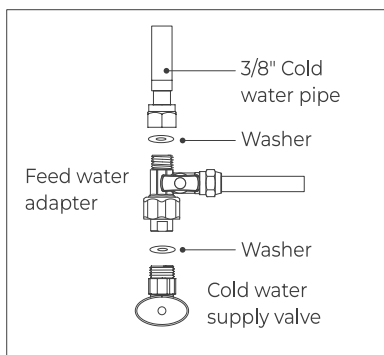

Figure 5
**c.** Twist the feed water adapter onto the cold water supply valve (with its washer) and tighten it with an adjustable wrench (**Figure 5**).